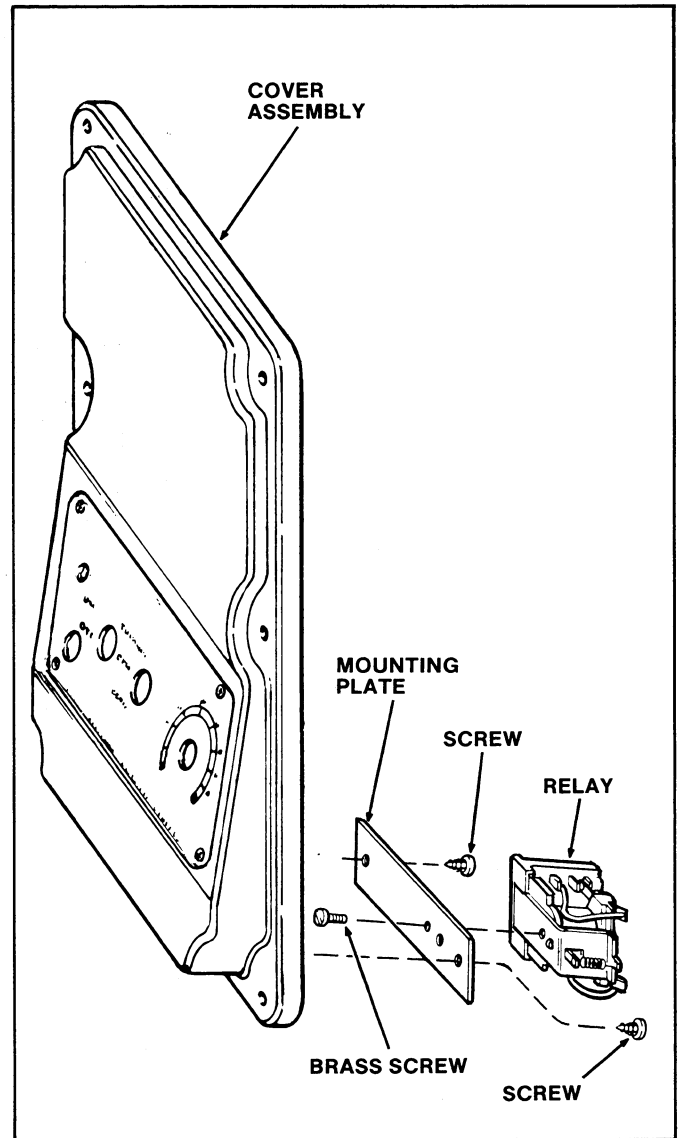

Figure 1—Assembly Diagram For On/Off Relay
2. Remove the two screws which secure Mounting Plate and Relay to cover (see Figure 1).
6. Mount Relay to Mounting Plate with brass screw (see Figure 1).